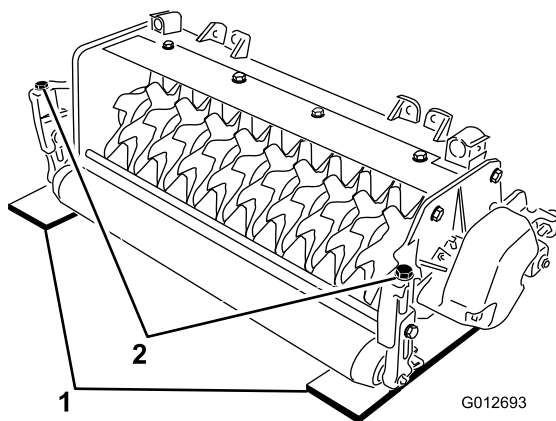

Figure 4
2. Place 2 gauge bars, which have the desired depth of blade penetration below the ground, under the front and rear rollers of the verticutter reel (on each end of the reel) (Figure 4).
3. Turn the adjusting bolt on each height-of-cut bracket (Figure 4) so that the reel blades come in contact with the level surface on both ends.